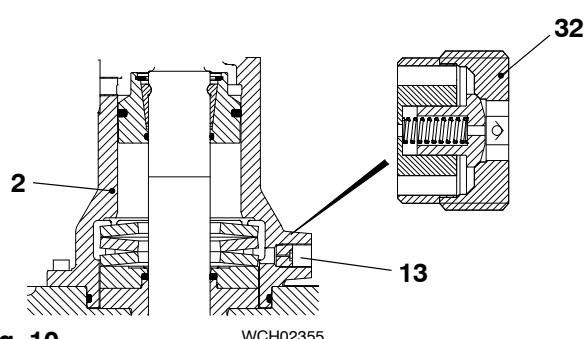

Fig. 10
- 1) Do a check of the non-return valve (32, Fig. 10) as follows:
- 2) Remove the non-return valve (32) from the housing (2).
- 4) Install the non-return valve (32) to the housing (2).